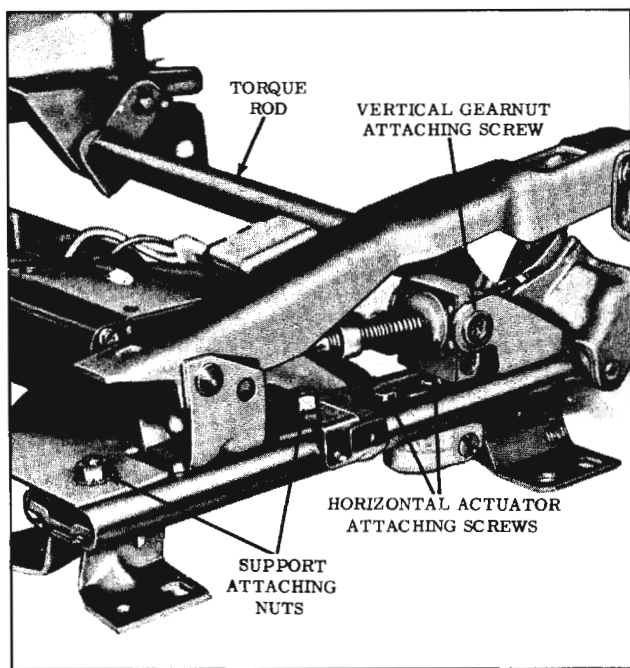
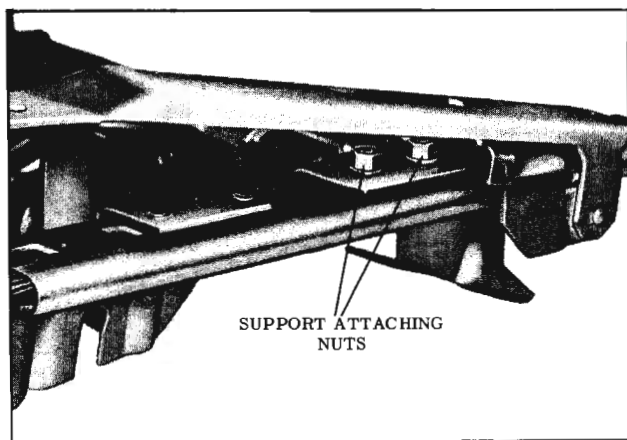

Fig. 16-87 Bucket Seat Adjuster (Outboard)
Fig. 16-88 Bucket Seat Adjuster (Inboard)
5. Remove nuts securing motor and transmission support to adjuster assembly (Fig. 16-87 for outboard adjuster and Fig. 16-88 for inboard adjuster).
- Using a clutch type screwdriver, remove shoulder screws securing linkage to vertical gear nut. (Fig. 16-87)
- Remove screws securing horizontal actuator assembly to adjuster lower track; then, remove actuator from adjuster assembly. (Fig. 16-87)
3. Remove nuts securing motor and transmission support to inboard adjuster. (Fig. 16-88)
2. Remove nuts securing support to both adjusters. (See Fig. 16-87 for outboard adjuster and Fig. 16-88 for inboard adjuster).